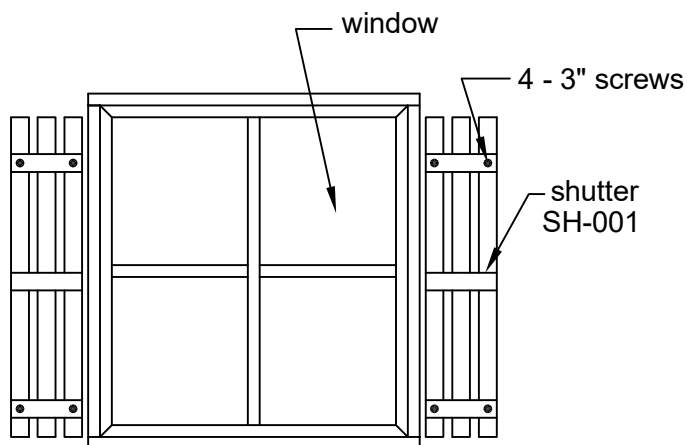

FIGURE S23
- Attach the shutters with 1 $\frac{3}{4}$ " finishing nails. Predrill the shutters with the 1/16" drill bit. See Figure S23.